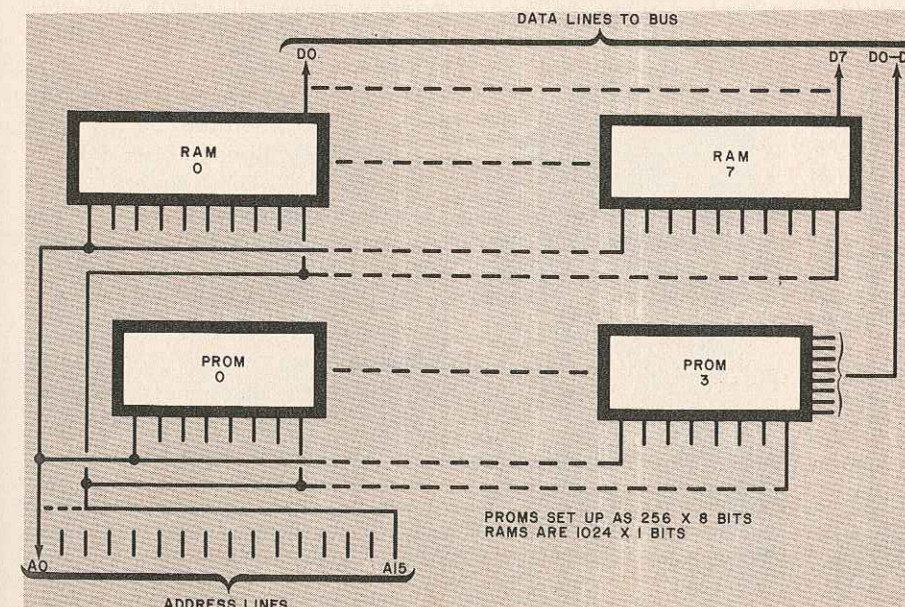

Fig. 2. There are eight RAM's (RAM 0 through RAM 7) and four PROM's (PROM 0 through PROM 3) in the computer's memory system.
**Memory.** The memory system consists of 1024 words of 8-bit-wide RAM, using 2102-type 1024  $\times$  1-bit devices, and up to 1024 words of PROM, using ultraviolet-erasable 1702 devices. The basic arrangement is shown in Fig. 2. The low-order address bits are fed to both the RAM's and PROM's.